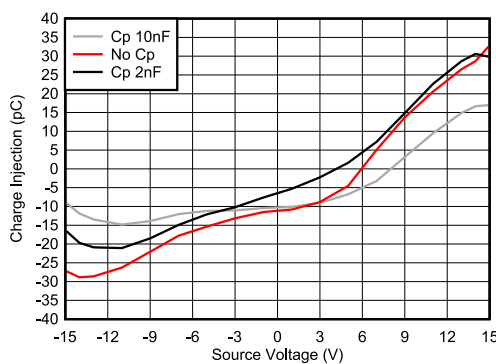

Figure 8-2. Charge Injection Compensation
The TMUX7219M contains specialized architecture to reduce charge injection on the source (Sx). To further reduce charge injection in a sensitive application, a compensation capacitor (C_p) can be added on the drain (D). This will ensure that excess charge from the switch transition will be pushed into the compensation capacitor on the drain (D) instead of the source (Sx). As a general rule, C_p should be 20× larger than the equivalent load capacitance on the source (Sx). Figure 8-2 shows charge injection variation with source voltage with different compensation capacitors on the drain side.